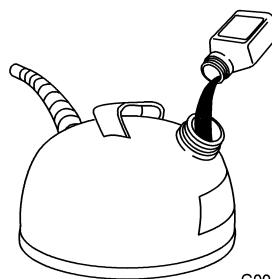

Figure 11
2. Add two-cycle oil to the gasoline according to the chart below (Figure 11):